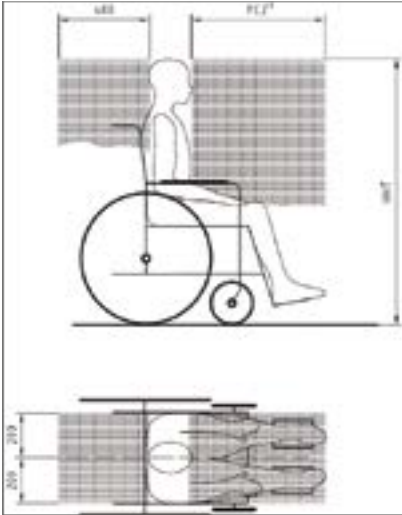

Figure 1
- To minimise the potential for head injuries in an impact, allow a clear space of at least 400mm behind and 650mm, (FCZ, front clear zone), in front of the head of the wheelchair user (Fig 1). The shoulder belt anchorage must be roof or side-wall anchored at a height level such that the belt webbing passes over the midpoint of the occupant shoulder and at a height that is at or just above the level of the occupants shoulders so as not to impose downward loads on the spine.